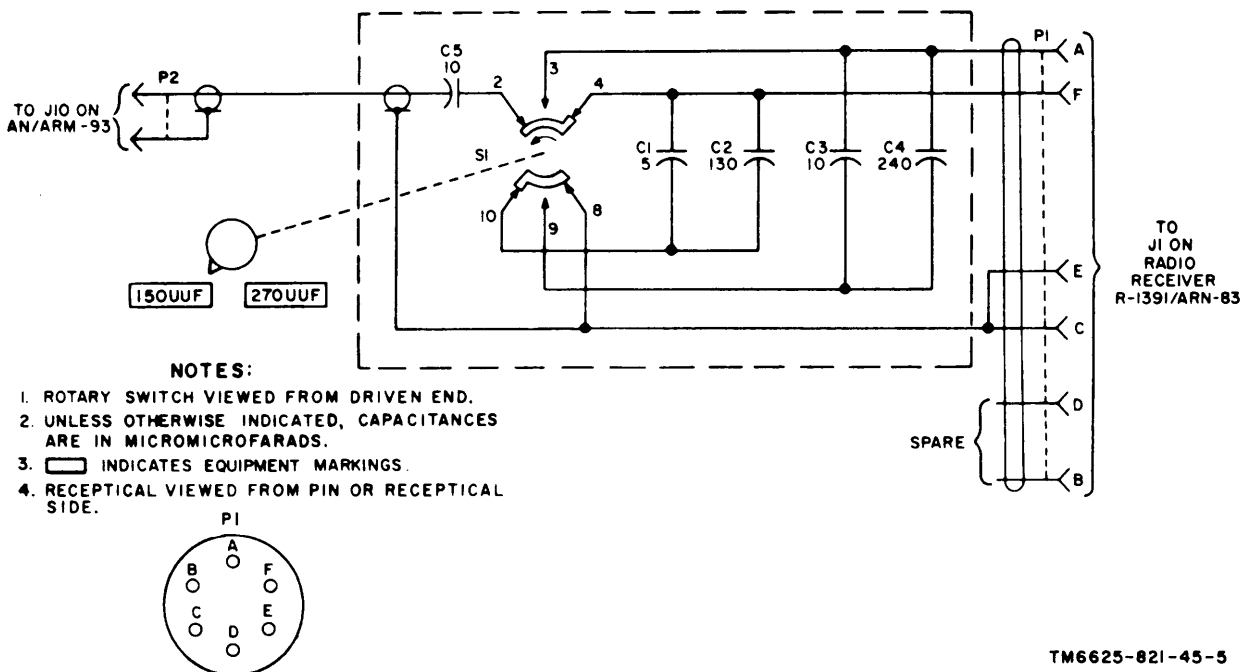

Figure 1-1. Simulator, Antenna SM-446/ARM-93, schematic diagram.
- (b) *Sense antenna adapter*. From connector J10, the sense antenna signal is applied to the receiver through Simulator, Antenna SM-446/ARM-93 (sense antenna adapter). The sense antenna adapter (fig. 1-1) is a voltage-divider and capacity-matching network consisting of capacitors C1 through C5 and switch S1. When switch S1 is in the 150 UUF position, capacitor C5 combines with capacitors C1 and C2 to provide attenuation and impedance matching for the 150-micromicrofarad (uuf) input of the receiver. When switch S1 is in the 270 UUF position, capacitor C5 combines with capacitors C3 and C4 to provide attenuation and impedance matching for the 270-micromicro-